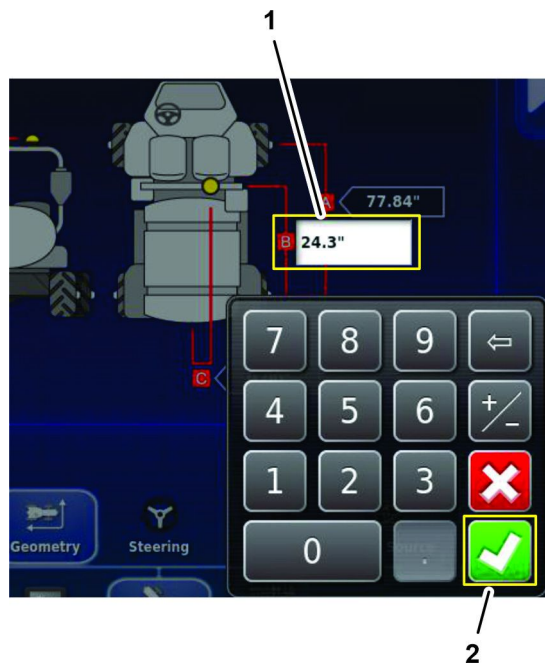

Figure 190
2. Press the rear axle centerline and satellite receiver center icon (B), use the on-screen keypad to enter the measurement that you recorded in the vehicle-geometry form of Measuring the Vehicle Geometry \(page 82\), and press the confirm icon (Figure 190).